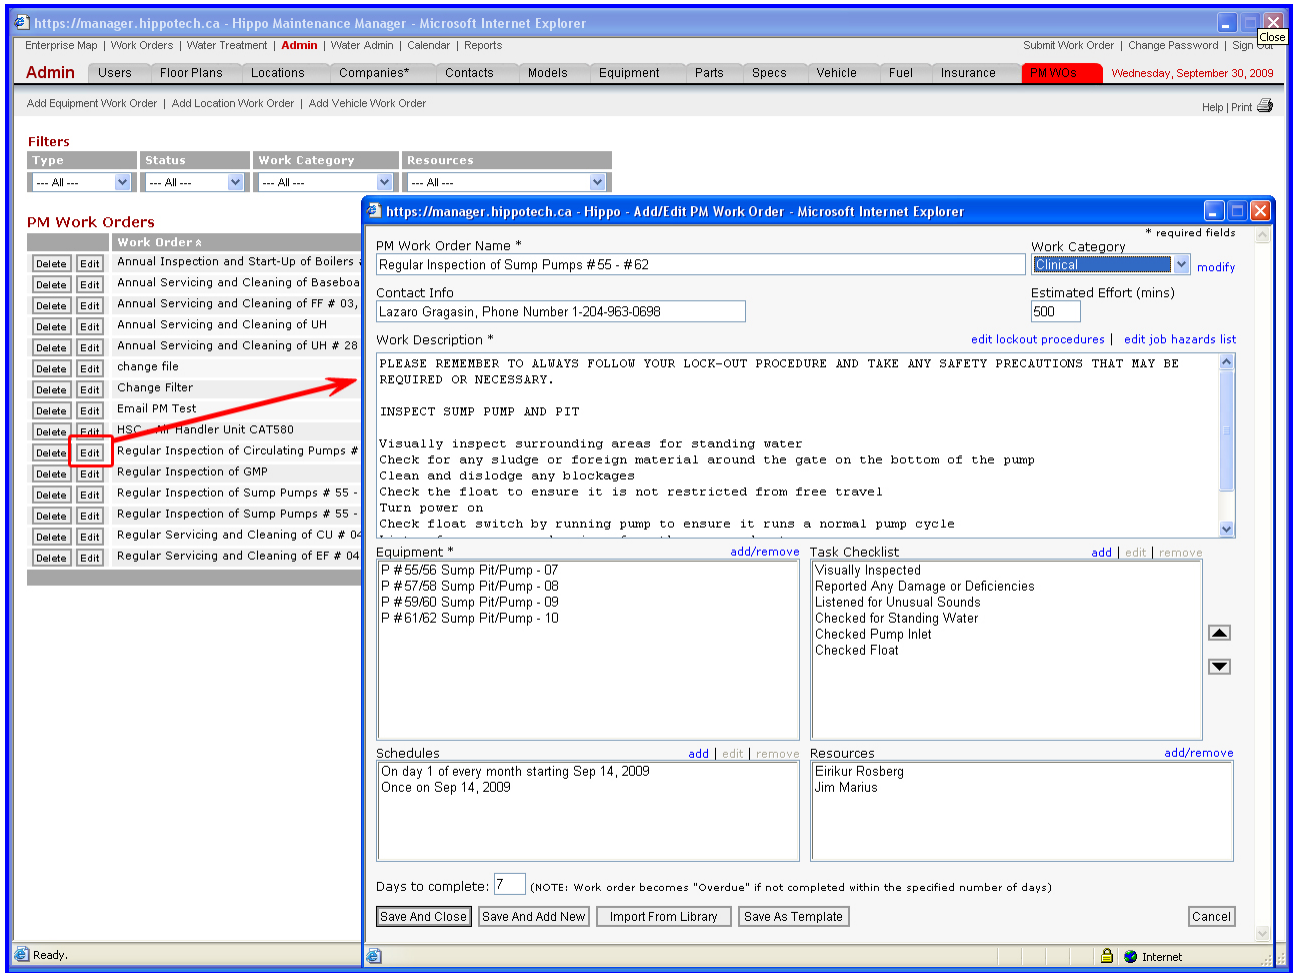

Figure 44: Edit PM Work Order
2. Click the **Edit** button beside the PM work order you want to edit to bring up the Edit PM Work Order window (See Figure 44).